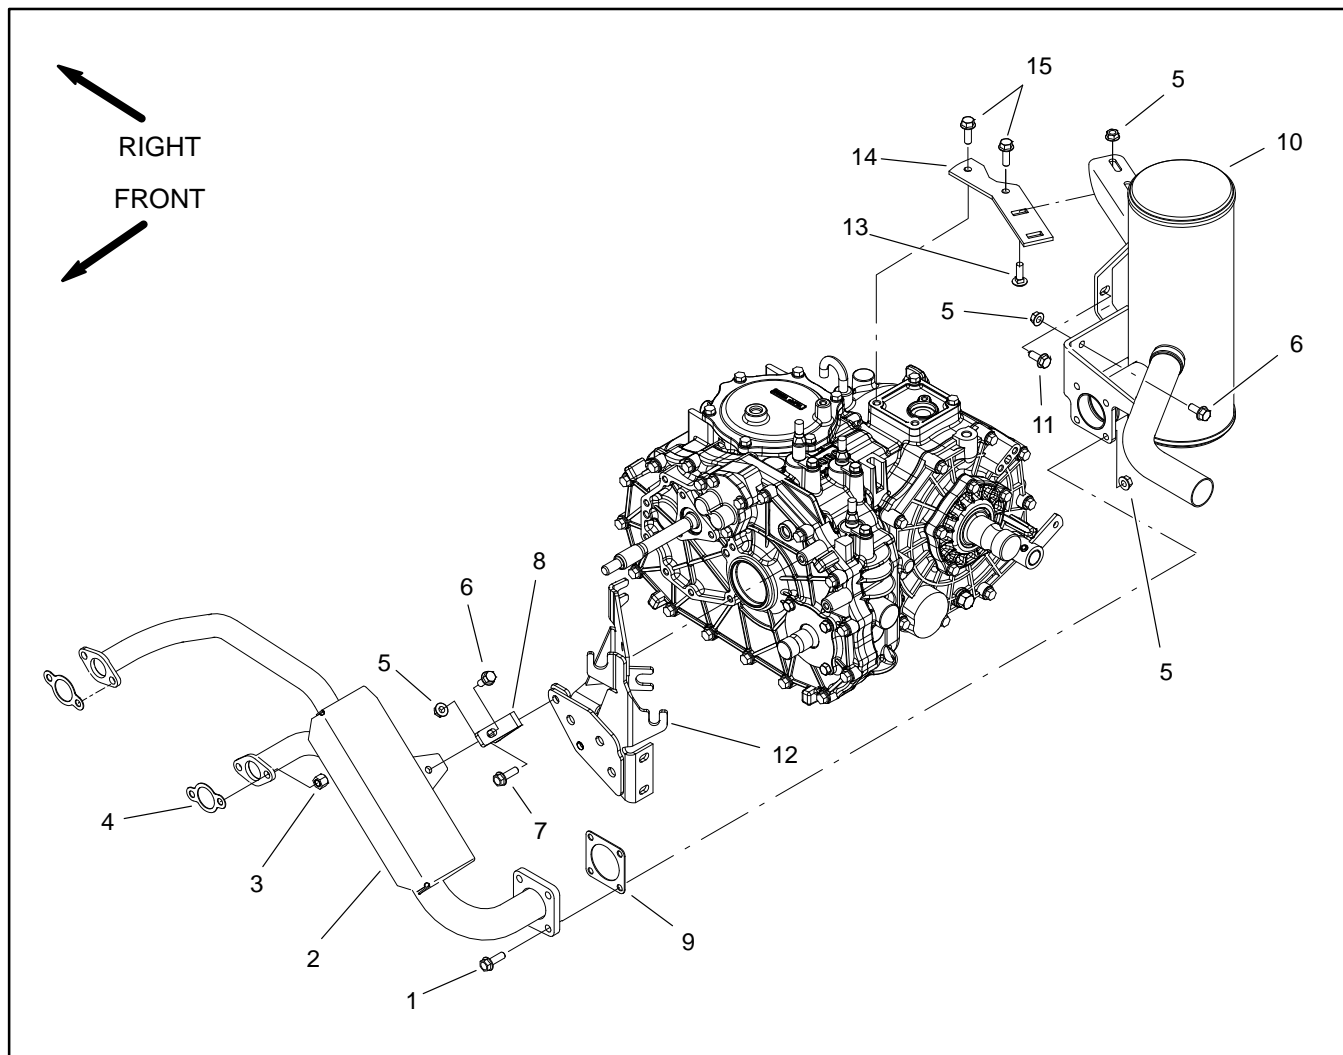

Figure 2
### Removal (Fig. 2)
3. Remove exhaust system components (Fig. 2).
### Installation (Fig. 2)
2. Fit all exhaust components to vehicle before tightening any fasteners (Fig. 2). When securing exhaust, tighten fasteners in the following order: